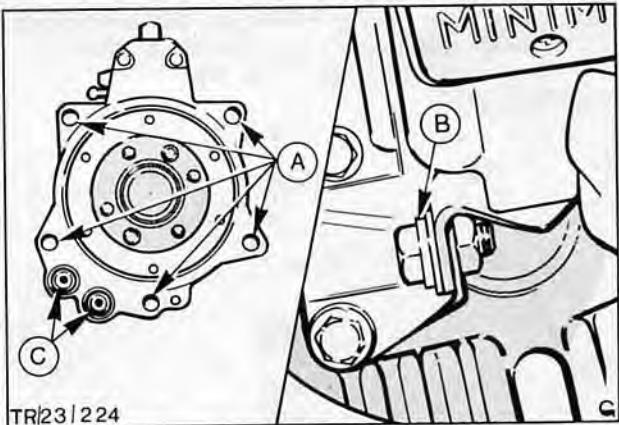

Fig. 47. Injection pump mounting point
18. On the front face remove 3 nuts and bolts and 2 bolts. Relative position of pump bolt locations shown in, Fig. 47.
19. Remove single bolt securing rear pump bracket to pump, Fig. 47.
26. Fit new 'O' seals to pump front face. Refer 'C' in, Fig. 47.
27. Place pump in position and secure front and rear mounting bolts, Fig. 47.